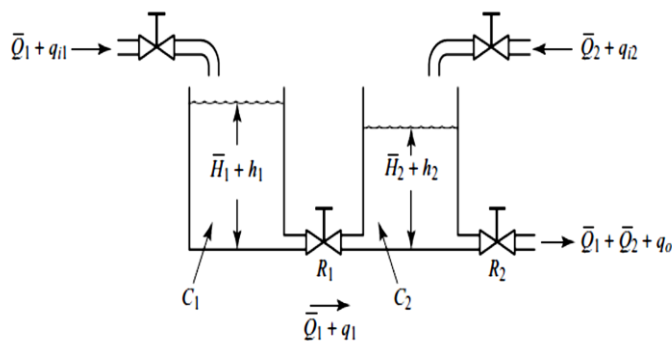

FIG: Q3A
- 3A.** Consider the liquid-level system shown in figure Q3A. In the system, \bar{Q}_1 and \bar{Q}_2 are steady-state inflow rates and \bar{H}_1 and \bar{H}_2 are steady-state heads. The quantities q_{i1} , q_{i2} , h_1 , h_2 , q_1 , and q_0 are considered small. Obtain a state-space representation for the system when h_1 and h_2 are the outputs and q_{i1} and q_{i2} are the inputs. **5**